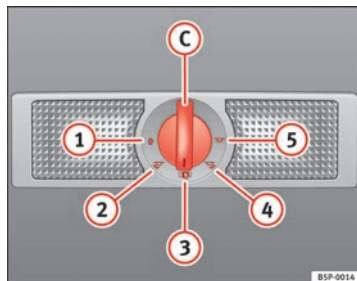

Fig. 81 Interior roof trim: rear interior lights and reading lights.
The switch → fig. 81 C is used to select the following positions:
In switch position → fig. 81 ①, the interior and reading lights are switched off.